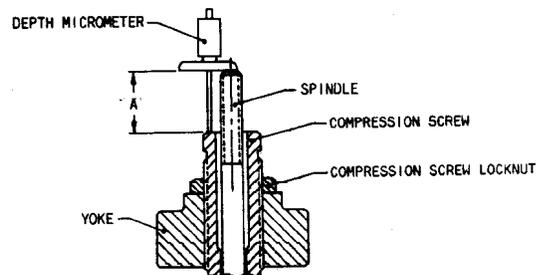

FIGURE 31
19. Next, refer to Figure 31 (below) and establish Dimension A.